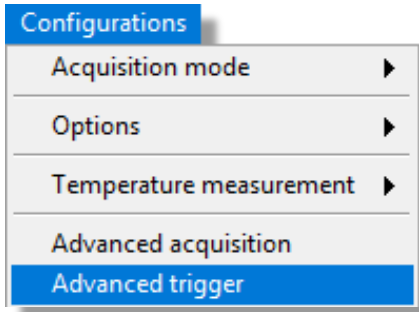

Figure 104 - Menu for selecting the “Advanced trigger”.
To select the advanced mode of the Trigger, enable “Advanced trigger”, in “Configurations” (Fig. 104). This field allows changing the “Trigger filter” window, under “Acquisition Configuration” (see item 8.1.3 *Adjusting the signal acquisition*).